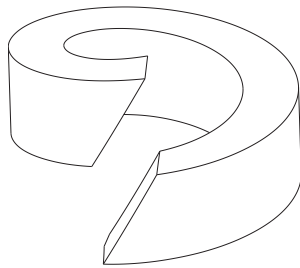

Fig. 6: Split packing ring
- When cutting the new packing von der Schnur, make sure that the ends are cut with a slant (see Fig. 6)